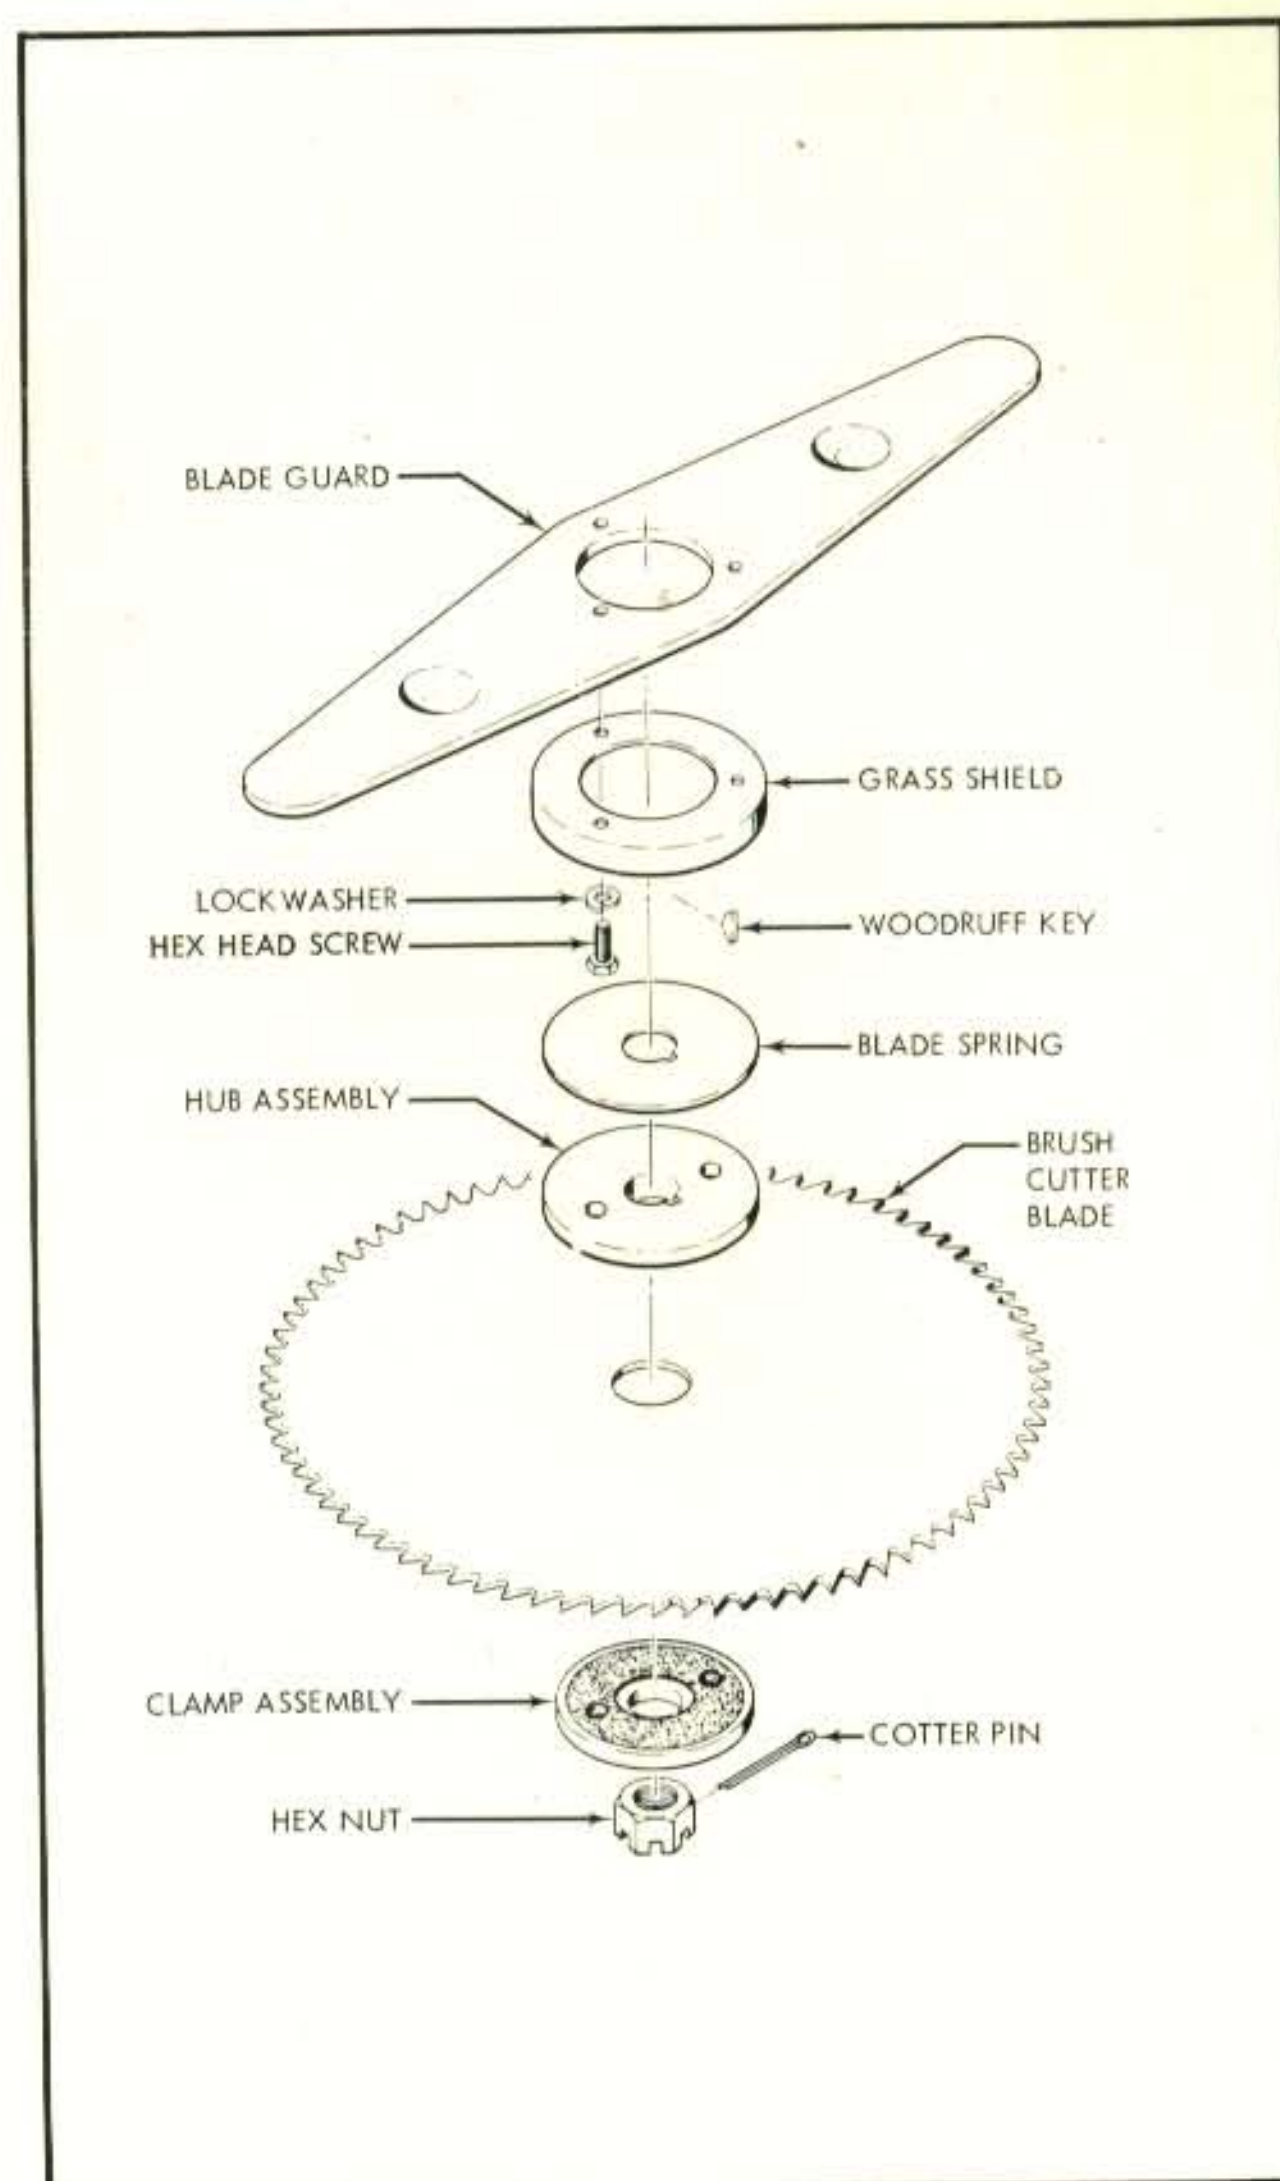

Figure 13. Installation of Brush Cutter Kit 57610
1. Mount the Blade Guard and the Grass Shield on the gear housing drive shaft with three 10-24 x 5/8-inch long screws (P/N 102388) and three No. 10 lockwashers (P/N 103174). (See Figure 13.)